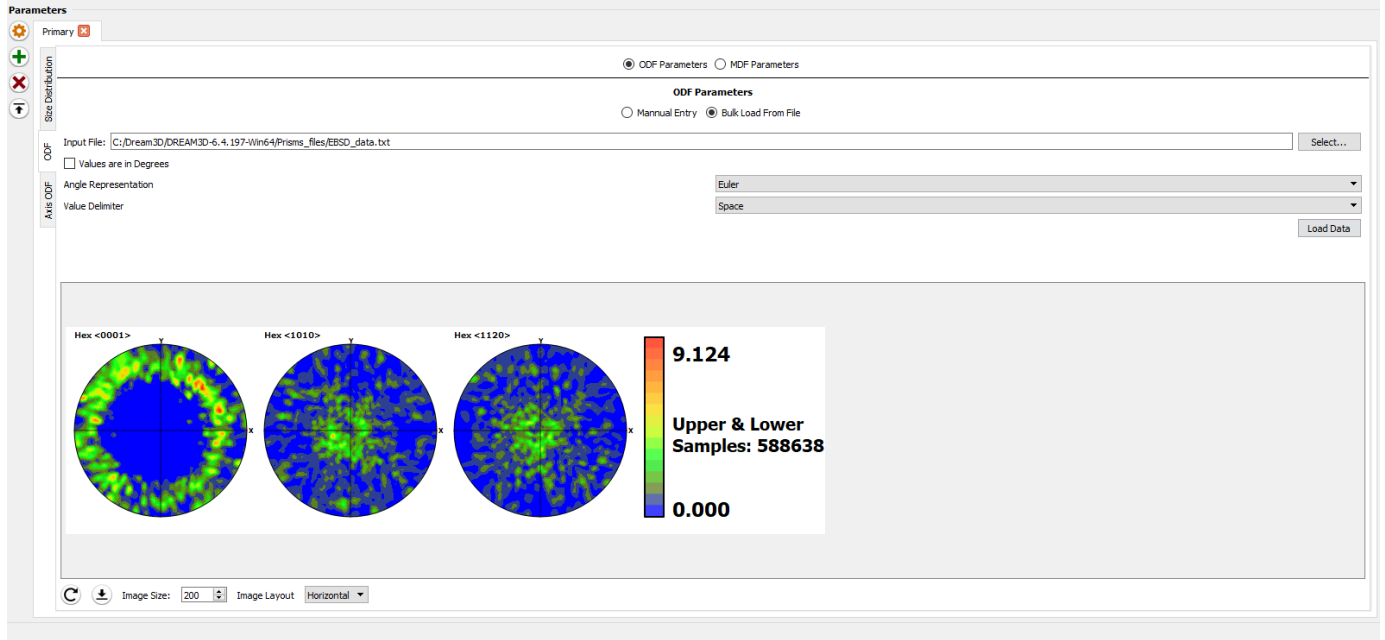

Figure 3: Reading orientation data from an external file
- Notice that the 2 tabs displaying **ODF** and **Axis ODF** are accessible. Click on the **ODF** button and click on the radiobox under **OFD parameters** displaying **Bulk Load From File**. The first textbox asks for the input file which can be added by clicking on the **Select** button and choosing the required file. In the present case, the Euler angles are specified in radians hence, leave the box next to **Values in Degrees** unchecked. Choose the angle representation as **Euler** and the delimiter as **Space**, as in Fig. 3. Then click on the button displaying **Load Data** to generate the pole figures.